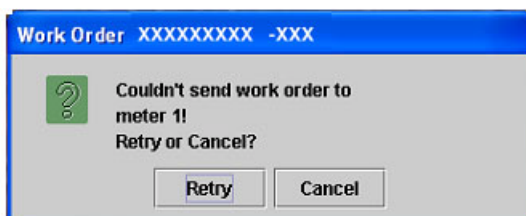

FIG. 61 Couldn't Send Work Order
If the PC cannot send a work order to the chosen meter for any reason, a Retry/Cancel pop-up box, as shown in FIG. 61, will be displayed. Clicking **Retry** will make the PC attempt to send the work order again. Clicking **Cancel** will do just that, effectively deleting the work order at the PC; no more retries will be attempted.
4. **Couldn't Send Work Order** (FIG. 61). This message appears when the PC tries to communicate with the meter and receives no response. RF communication is attempted when this screen appears. This message indicates the battery in the meter is removed or needs to be recharged, the transceiver is unplugged, or the RF environment has changed. Correct these conditions and attempt to send the work order again.